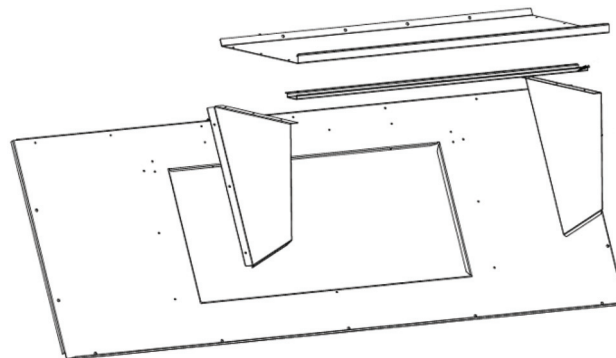

Fig. 32 — Barometric Hood Exploded View
3. Install parts as shown in the following exploded view (see Fig. 32) using the seal strip and screws provided in the parts box.